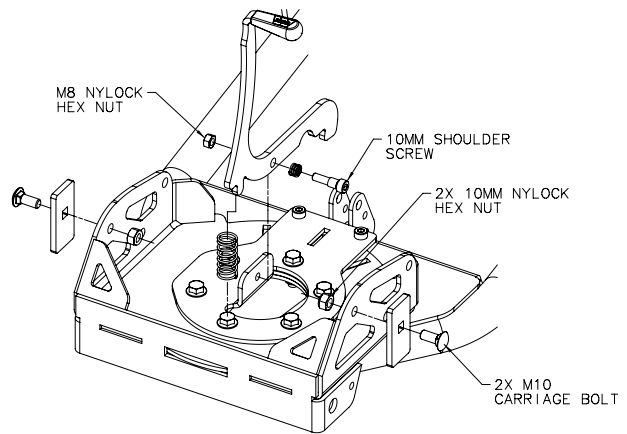

Figure 1 Assemble Plow Lever
1. Assemble the plow lever arm per Figure 1. Run a 10mm dia shoulder bolt through the lever arm side and out the center hole in the plow base. Use the small compression spring between the shoulder screw and the latch. Terminate with a 8mm dia lock nut. Tighten until the shoulder screw is firmly against the plow base. Latch lever should rotate freely.
2. Attach both stop blocks, as shown in Figure 1. Insert the M10 carriage bolt through each block and into the plow base as shown in Figure 1. Notice that hole in stop block is not in the center. This block produces three blade angle settings and must be set the same on both sides of base. Terminate with a 10mm dia lock nut.
NOTE: It is recommended to first place the stop block in the position shown in Figure 1. See the "ATV Plow Operator's Guide" for instruction on blade attach angle settings.